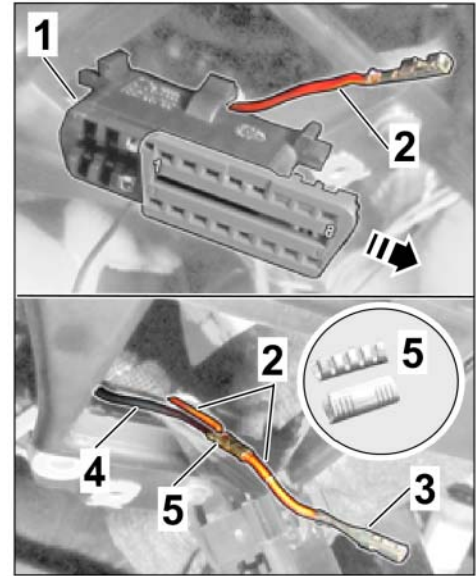

Figure 18
- Release diagnostic socket and remove line 112 RD/YE 0.5² from chamber 1 (⇒ *Figure 18 -top-*).
- Crimp BK 0.5² line to line 112 RD/YE 0.5² in the insulated area using a crimp connector (⇒ *Figure 18 -bottom-*).
- Expose (2-pin) socket underneath the dashboard (LHD: in steering column area ⇒ *Figure 18*).